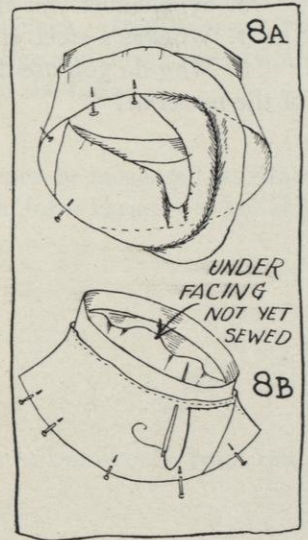

Fig. 8. A-B
- c. Place the crease in the material over the edge of the frame and pin in a few places along the edge (see Figure 8 A). If you have measured correctly, it will just fit.
- d. Sew top facing with $\frac{1}{2}$ -inch forward stitches and $\frac{1}{4}$ -inch back stitches, just under the top headsize wire (see Figure 8 B). Do not stitch through under facing.